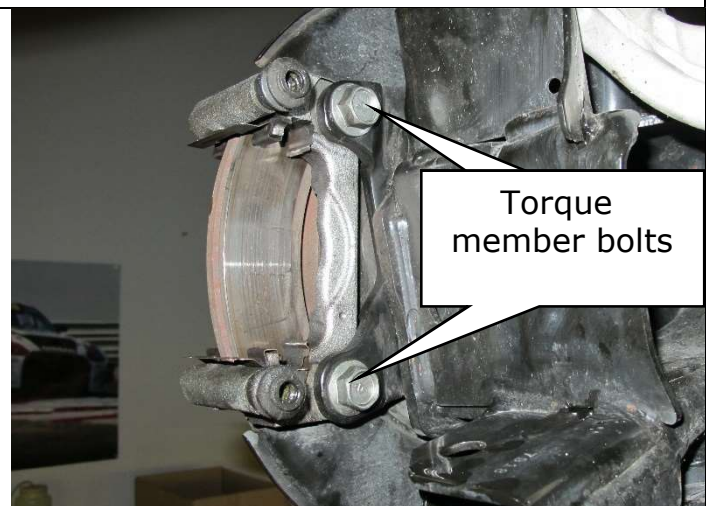

Figure 9
- Loosen and remove the torque member bolts and torque member assembly (Figure 9)